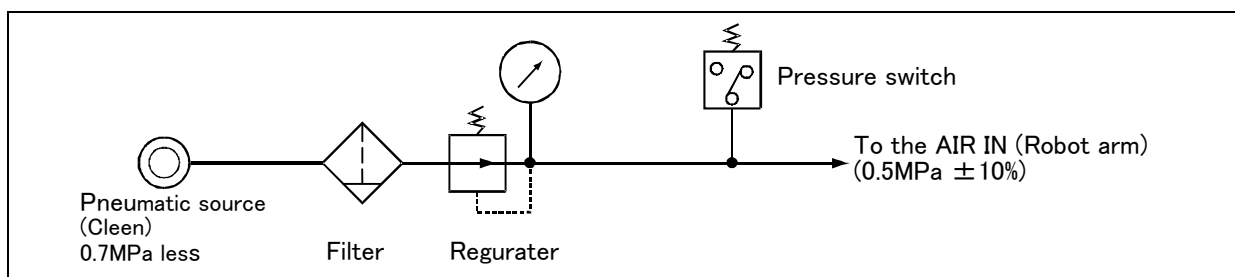

Fig.2-56 : Air supply circuit example for the hand
Fig. 2-56 shows an example of pneumatic supply circuitry for the hand.
- (1) Place diodes parallel to the solenoid coil.
- (2) When the factory pneumatic pressure drops, as a result of the hand clamp strength weakening, there can be damage to the work. To prevent it, install a pressure switch to the source of the air as shown in Fig. 2-56 and use the circuit described so that the robot stops when pressure drops. Use a hand with a spring-pressure clamp, or a mechanical lock-type hand, that can be used in cases where the pressure switch becomes damaged.
- (3) The optional hand and solenoid valve are of an oilless type. If they are used, don't use any lubricator.
- (4) Supply clean air to the vacuum generation valve when you use clean type robot.
- (5) If the air supply temperature (primary piping) used for the tool etc. is lower than ambient air temperature, the dew condensation may occur on the coupling or the hose surface.